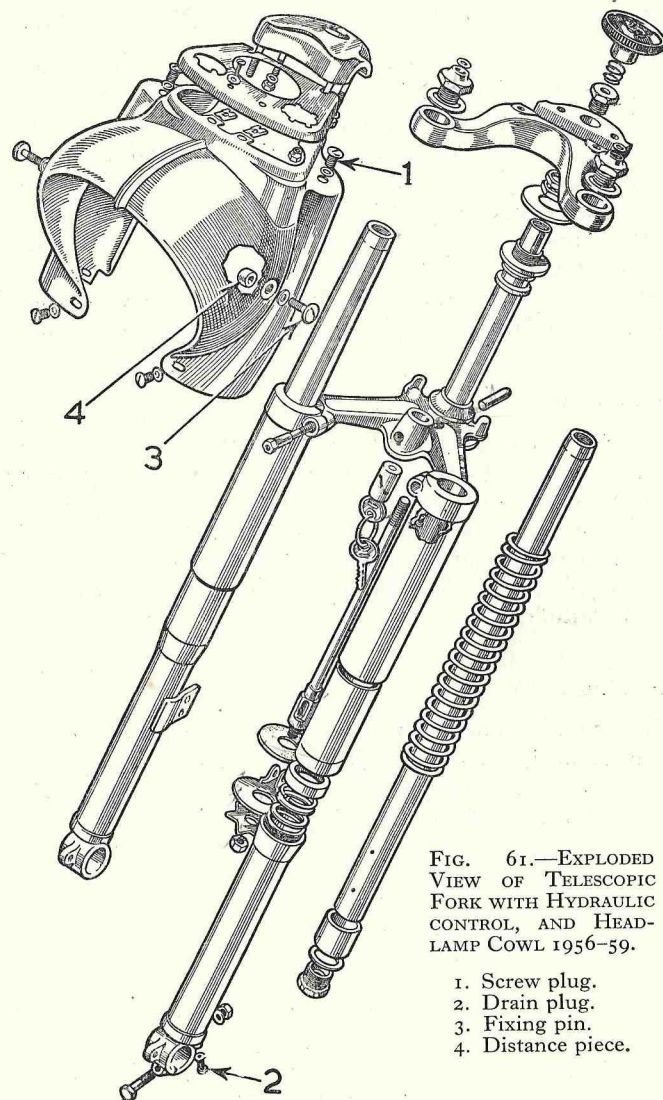

FIG. 61.—EXPLODED VIEW OF TELESCOPIC FORK WITH HYDRAULIC CONTROL, AND HEAD-LAMP COWL 1956-59.
To drain the fork legs (see Fig. 61) remove the screw plugs (1) from the top of each leg. Next remove the drain plugs (2) at the base of each tube and check the amount of oil removed. Never over-fill the forks or the hydraulic action will be retarded.
The handlebars should first be turned fully to the right. Next remove the two fixing pins (3, Fig. 61) and note the two distance pieces (4) which fall away. The complete lamp can now be withdrawn.
Release the pinch bolt at the extreme bottom end of the left-hand fork leg (see Fig. 61). Remove the large hub spindle nut on the brake-plate side. Push a suitable tommy bar into the hole at the end of the hub spindle and rotate it in both directions, at the same time pulling the spindle outwards. This now leaves the complete wheel free for removal.